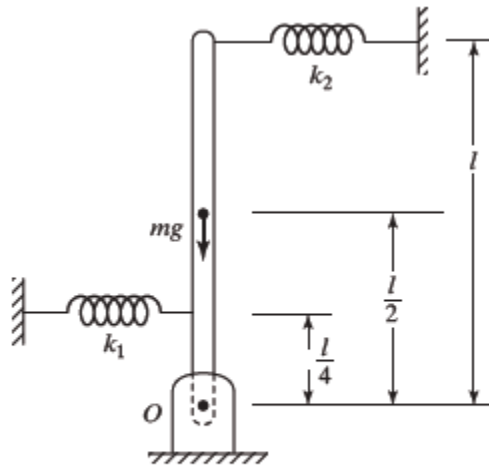

FIGURE 1.76 Rigid bar connected by springs.
1.20 Figure 1.76 shows a uniform rigid bar of mass m that is pivoted at point O and connected by springs of stiffnesses k_1 and k_2 . Considering a small angular displacement θ of the rigid bar about the point O , determine the equivalent spring constant associated with the restoring moment.